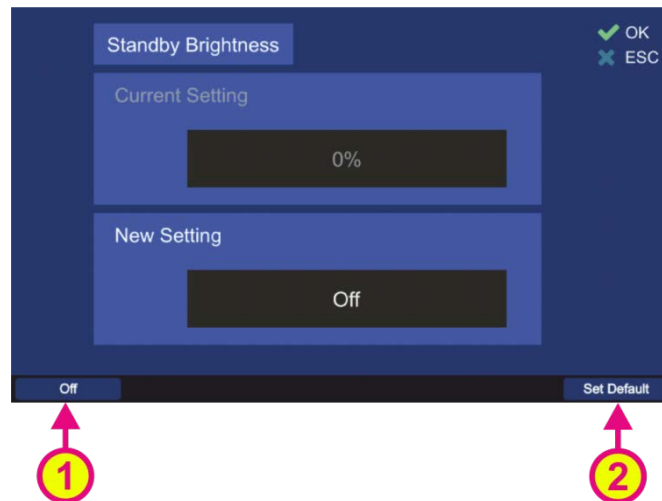

Fig. 94 Adjusting the standby brightness
Following dialog opens (s. Fig. 94).
- Type the new value for the standby brightness value in the "New Setting" input field, using the numeric buttons of the DCU keypad or use the hotkey "Off" (s. Fig. 94, position 1) in order to set the standby brightness to a "black screen"-value. If the setting "Off" is confirmed with "OK", the display will be turned off after the button "Standby" is pressed.
- Use the "Set Default" hotkey (s. Fig. 94, position 2) to reset the value to the default setting (Off).